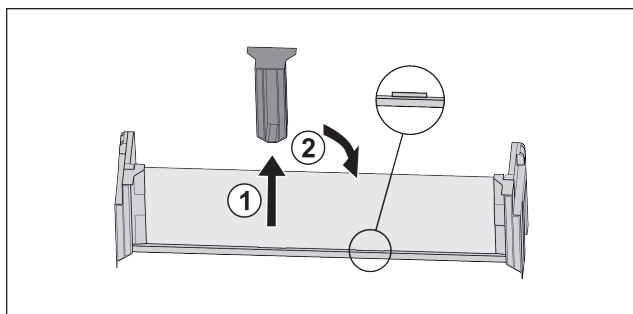

Fig. 126
- Pull off the middle holder Fig. 126 (1).
- Insert the middle holder in the second position Fig. 126 (2).